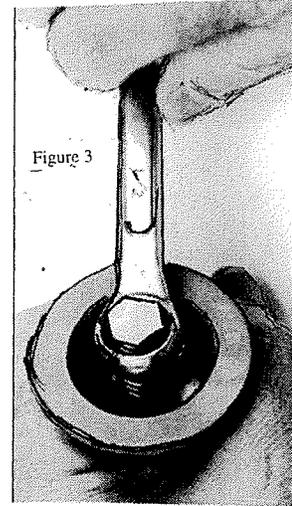
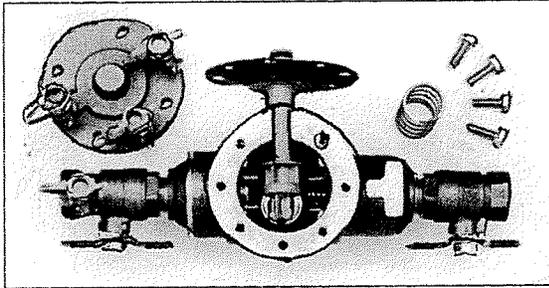

Figure 1
Figure 1a
2. Next use a wrench or socket to take the bolts out of top cover. After taking the cover off carefully inspect diaphragms, seals and seating surfaces for debris or damage. (RPZ Fig. 1 DCV Fig. 1a)
2. Grasp the bottom disc retainer and use a Allen wrench to take the assembly apart. Turn the Allen wrench coupter clockwise until the assembly is apart. (figure 1)